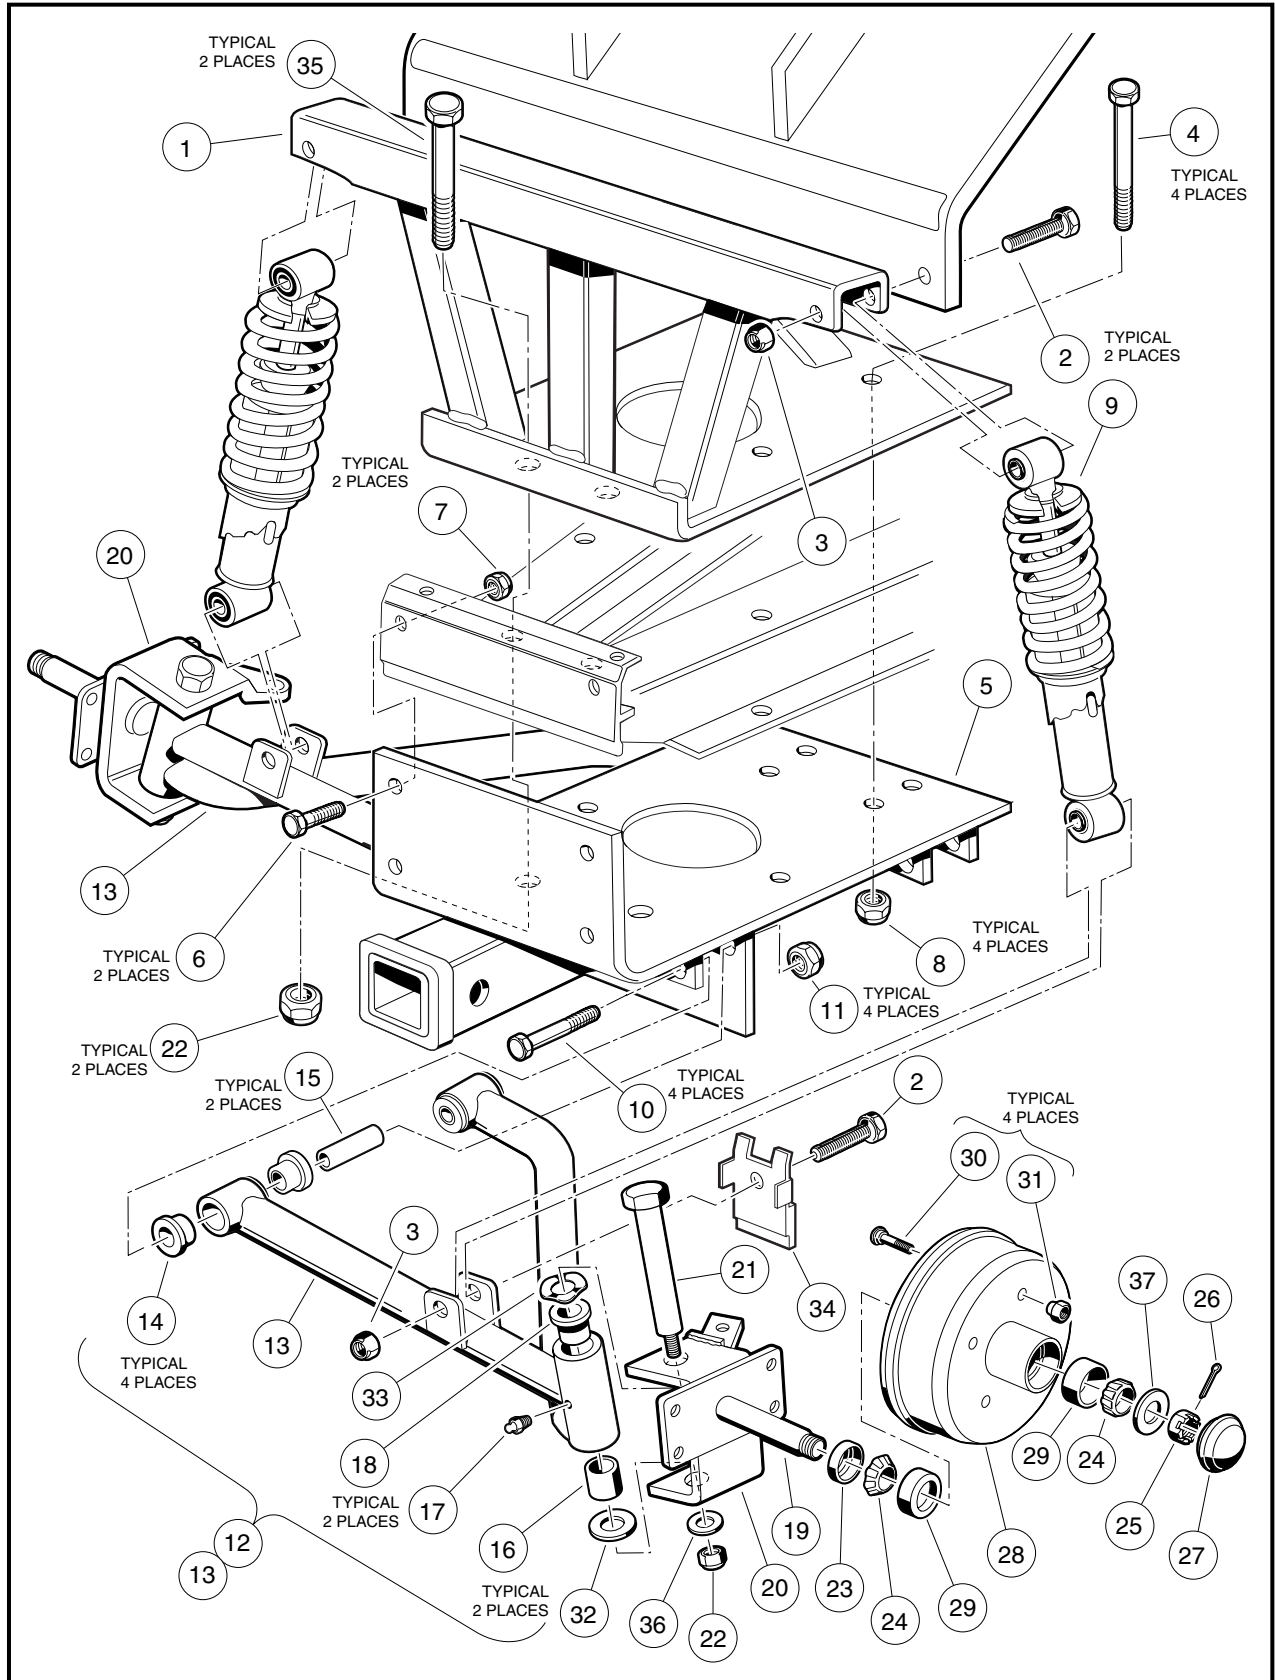

Figure 7-28 Front Suspension
5. Remove the nut (22) and washer (36) and kingpin (21) (**Figure 7-28, Page 7-17**).
6. Remove the thrust washer (32).
7. Remove the wave washer (33) and inspect it. If the washer is broken or has a wave bottom to wave crest height dimension of less than .040 inch (0.10 cm), it must be replaced.
8. Slide the spindle assembly (20) off of the A-arm (13).
2. Inspect the kingpin (21) and spindle (19). If either are worn or damaged, they must be replaced (**Figure 7-28, Page 7-17**).
4. Install the spindle assembly (20) onto the A-arm (13) (**Figure 7-28, Page 7-17**).
5. Install the thrust washer (32), wave washer (33) and kingpin (21).
6. Install the washer (36) and a new lock nut (22). Tighten to 18 ft-lb (24.4 N·m).
8. Install the lock nut (24) and tighten to 40 ft-lb (54.2 N·m).
9. Install a new cotter pin (18) and bend it to secure it to the ball joint.
10. Use a grease gun and apply grease to the grease fitting (17) in the A-arm (13) (**Figure 7-28, Page 7-17**). **See Lubrication on page 7-13.**
3. Remove the nut (22) washer (36) and kingpin (21) (**Figure 7-28, Page 7-17**).
4. Remove the thrust washer (32).
5. Remove the wave washer (33) and inspect it. If the washer is broken or has a wave bottom to wave crest height dimension of less than .040 inch (0.10 cm), it must be replaced (**Figure 7-28, Page 7-17**).
6. Slide the spindle assembly (20) off of the A-arm (13).
7. Remove the lower shock absorber mounting bolt (2), nut (3) and steering stop bracket (34).
8. Remove the two bolts (10) two nuts (11) and the A-arm (13) from the suspension mounting plate.
1. Inspect the bushings (14) and sleeves (15) in the A-arm (13) and replace if necessary (**Figure 7-28, Page 7-17**).
3. Install the A-arm (13) to the front suspension mounting plate using bolt (10) and nut (11) and tighten to 20 ft-lb (27 N·m) (**Figure 7-28, Page 7-17**).
4. Install the spindle assembly (20) onto the A-arm (13).
5. Install the lower shock absorber mount to the A-arm with bolt (2), nut (3) and steering stopbrake hose bracket (34) (**Figure 7-28, Page 7-17**). Align the bracket (34) with the shock absorber and tighten hardware to 22 ft-lb (29.7 N·m) (**Figure 7-29, Page 7-18**).
6. Install the thrust washer (32), wave washer (33) and kingpin (21).
7. Install the washer (36) and a new lock nut (22). Tighten to 18 ft-lb (24.4 N·m).
9. Install the lock nut (24) to secure the ball joint to the spindle and tighten to 18 ft-lb (24.4 N·m).
10. Install a new cotter pin (18) and bend to secure it to the ball joint.
11. Use a grease gun and apply grease to the grease fitting (17) in the A-arm (13) (**Figure 7-28, Page 7-17**). **See Lubrication on page 7-13.**
4. Remove the bolt (2) and nut (3) attaching the upper shock absorber mount to the A-arm (**Figure 7-28, Page 7-17**).
5. Remove the bolt (2) and nut (3) attaching the lower shock absorber mount and steering stop/brake hose bracket (34) and shock from the A-arm.